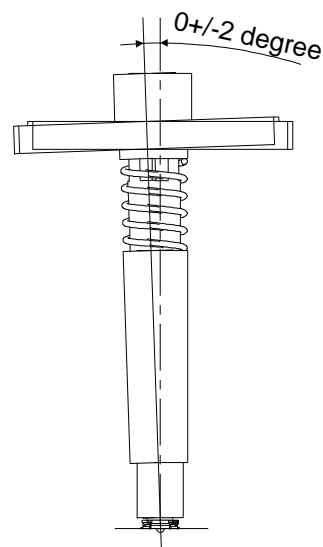

Figure 8. Probe Shape Operation Manual for Auto Measurement probe (MM206621)
3.3 The slant angle tolerance of probe against SWH type Receptacle (Figure 8)